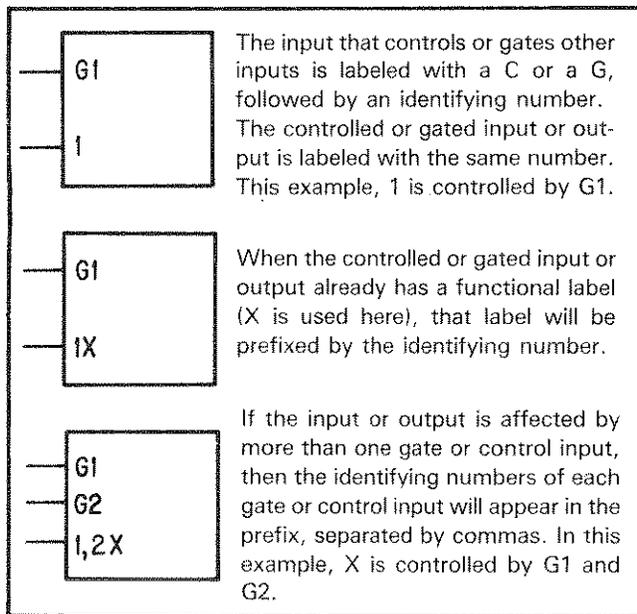

Figure B-8. AND Dependency Notation
**Dependency Notation.** Dependency notation simplifies symbols for complex integrated circuit elements by defining the interdependencies of inputs or outputs without actually showing all the elements and interconnections involved. (See Figure B-8 and B-9 for examples of AND dependency and enable dependency.)